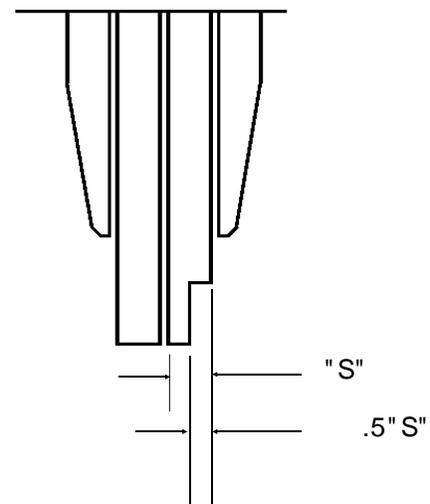

Figure 11
- 4.3.1 With the splined hub removed, wear of the spring packs' long leaves may be observed. The maximum wear of the tips of the long leaves must not exceed 1/2 the thickness of a single spring leaf. See Figure 11.